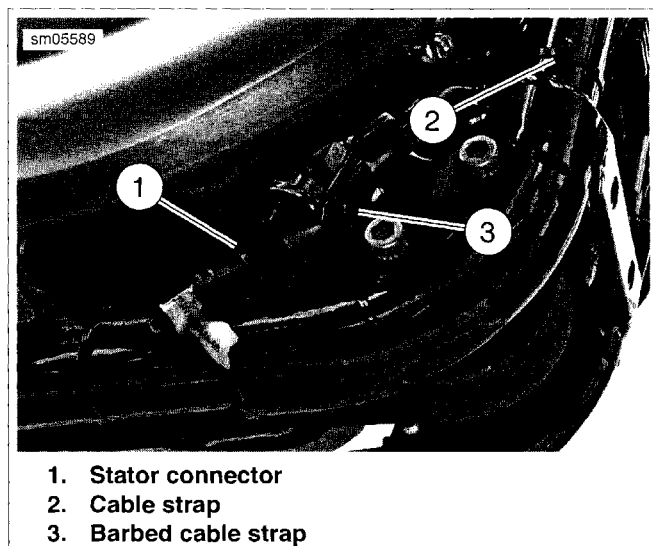
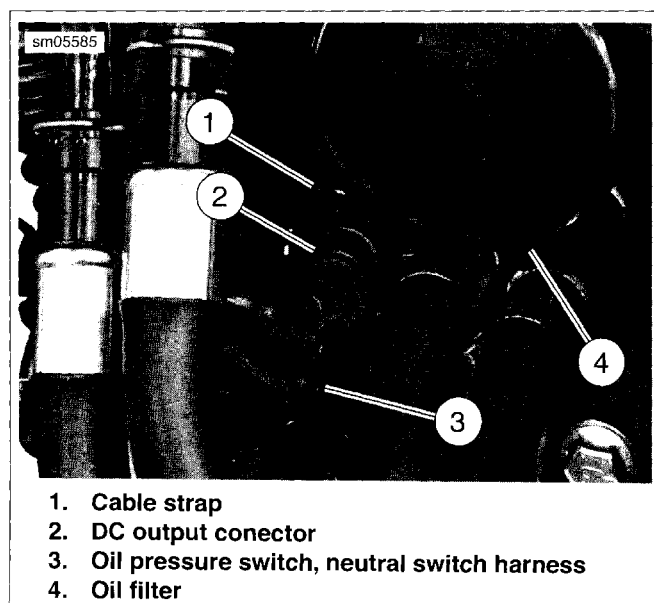

Figure 6-9. Stator Connector: XR Models
Figure 6-10. DC Output Connector: XR Models
5. See Figure 6-9. Connect stator connector (1) and fold external latch over and lock in place. Secure stator connector to bracket with barbed cable strap (3).
6. Secure stator wires to right frame down tube with cable strap (2).
7. See Figure 6-10. Connect voltage regulator DC output connector. Fold external latch over and lock in place.
8. Secure DC output connector (2) along with oil pressure switch, neutral switch harness (3) to voltage regulator bracket with cable strap (1).